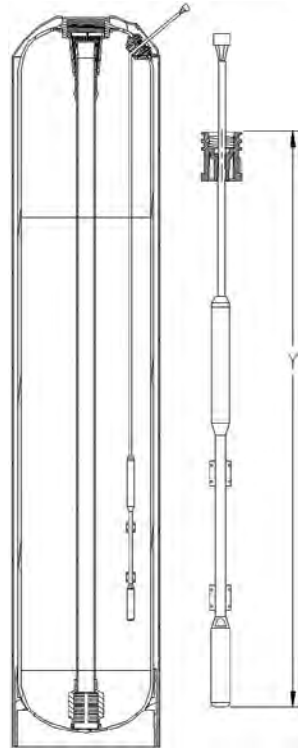

Figure 2. HE Softener tank.
3. Install the outlet manifold into the tank (Figure 2).
1. Measure the sensor cable length as shown in Figure 2 and Table 1 (the Aqua-Sensor cord is set at the factory for a 9" tank).